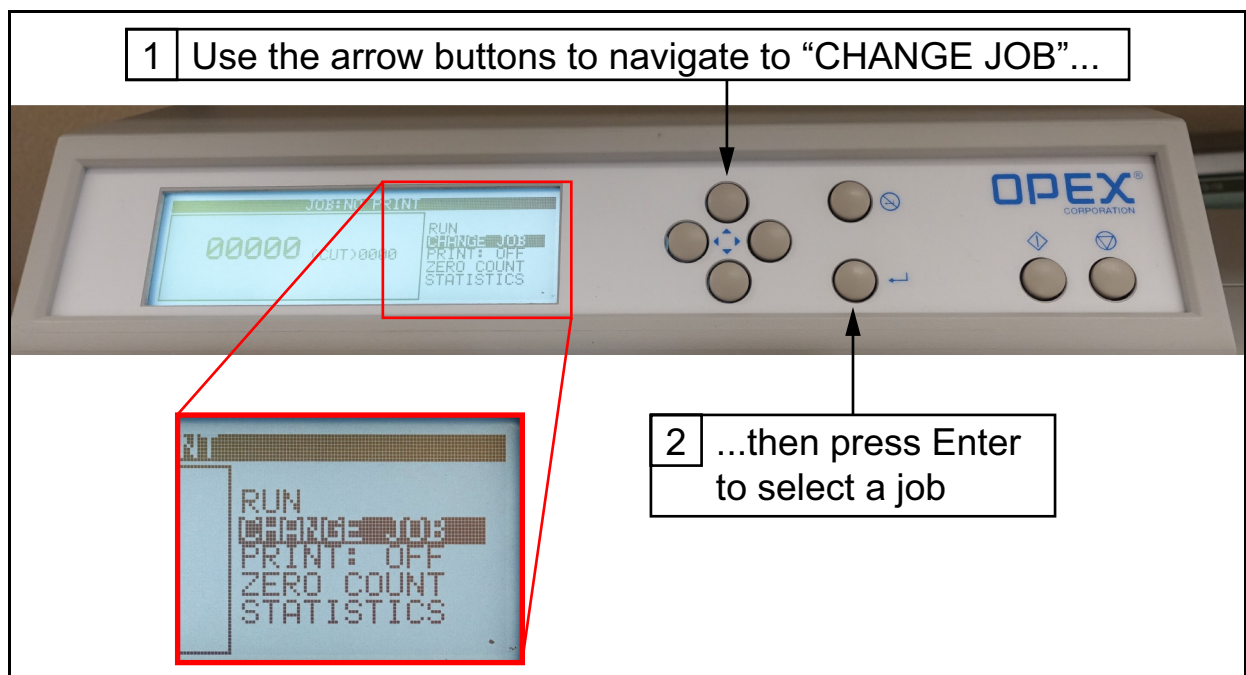

Figure 3-9: Getting to the Select Job screen
6. Access the **Select Job** screen by using the **arrows** to highlight **CHANGE JOB** in the menu, and then press the **Enter** button (Figure 3-9).
7. Select a job by highlighting it with the **arrow** buttons, and then pressing **Enter** (Figure 3-9).